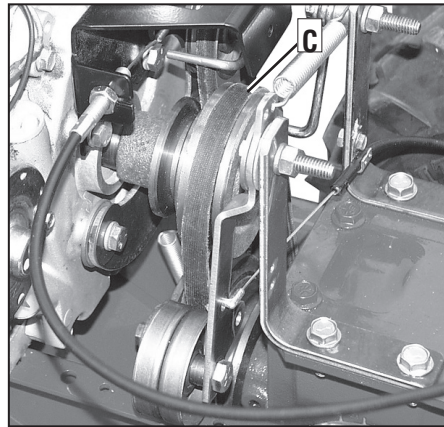

Figure 5-8: Forward clutch belt. (C, Left-side view, no belt cover.)
Tension on a new forward clutch belt (C, Figure 5-8) should be checked after the first two (2) hours of operation and after